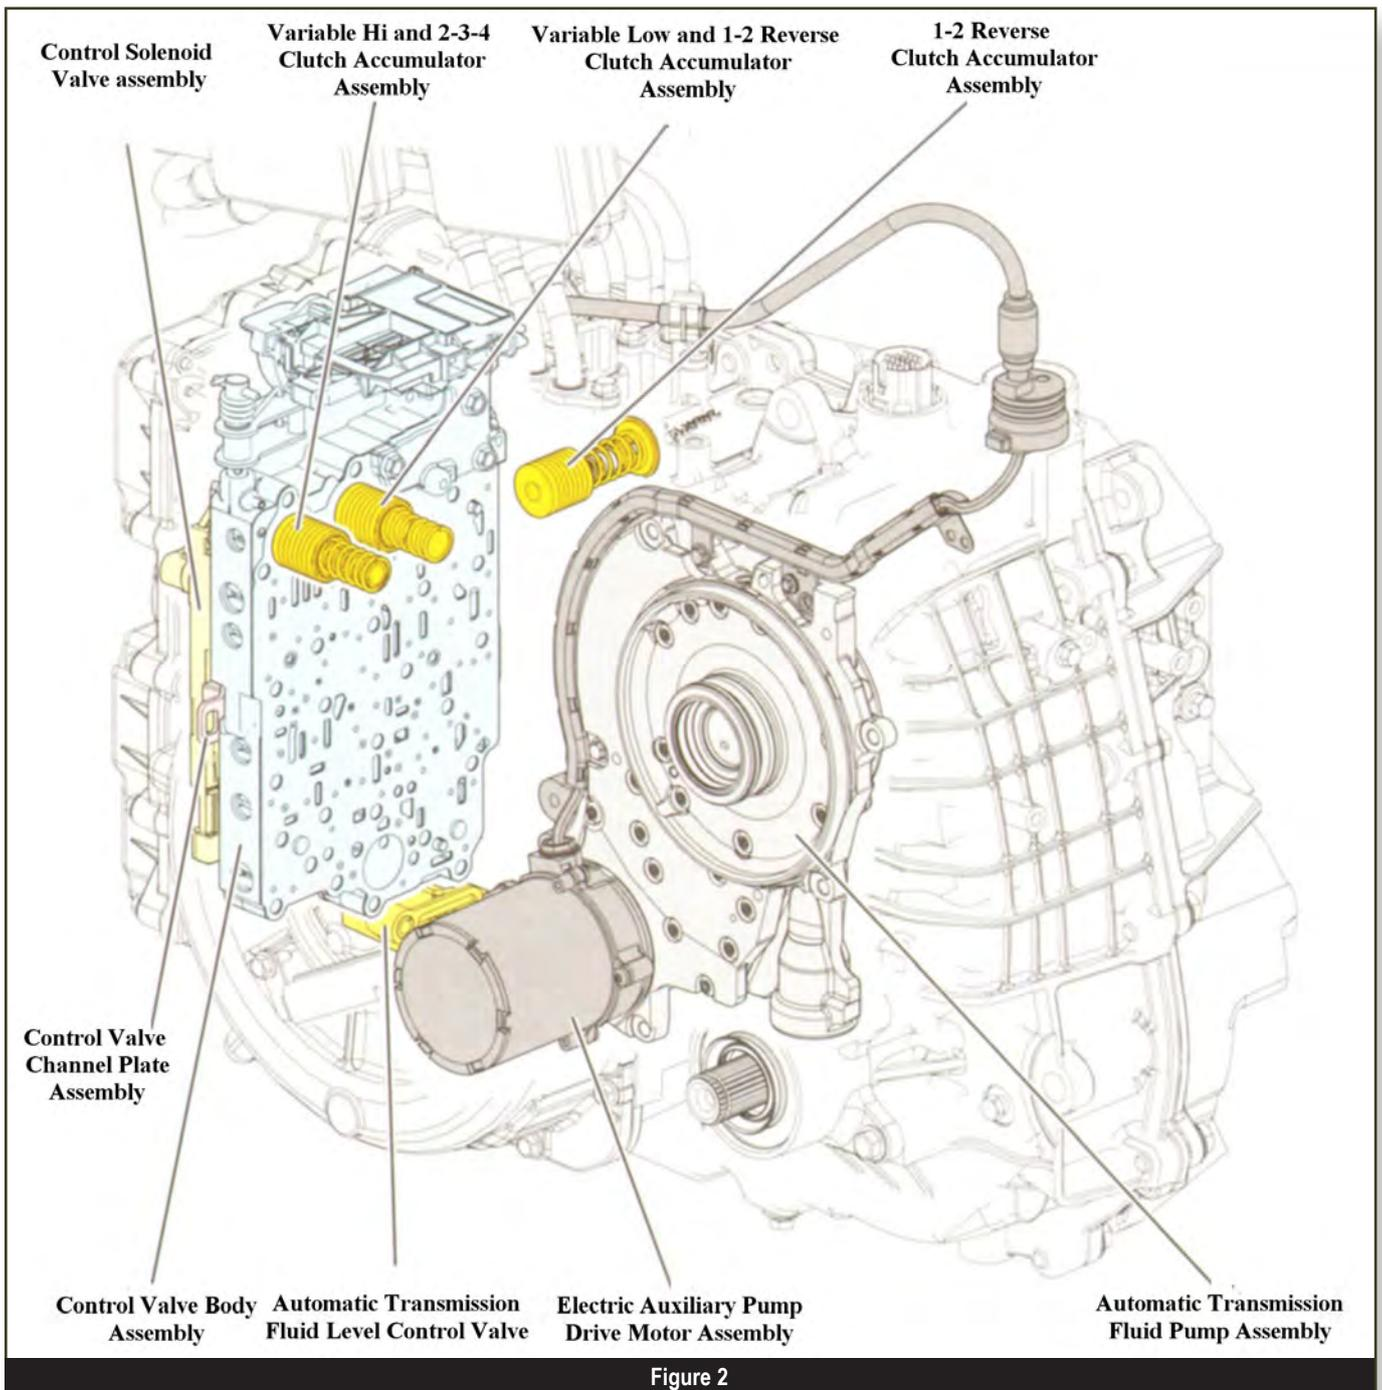

Figure 2
**Integrated Main and Auxiliary Pumps** — The integrated main fluid pump and auxiliary pump (figure 2) are located in the pump cover. The main pump is mechanical and is used